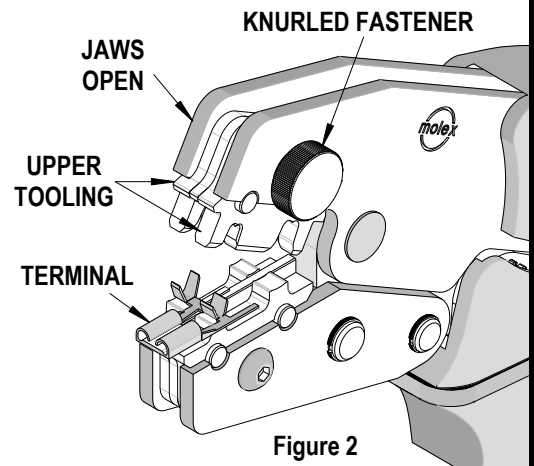

Figure 2
2. Before attempting to crimp any terminals, make sure all the upper tooling is correctly placed into the upper jaw. The desired nest being used for the proper wire size should be in the forward position, (The marking on the upper tooling "A" for 0.8mm2 or "B" for 0.5mm2). This is done by removing the knurled fastener that holds the upper tooling in place and then rotating it 180° to the correct position. Then, re-installing the fastener. See Figure 2.